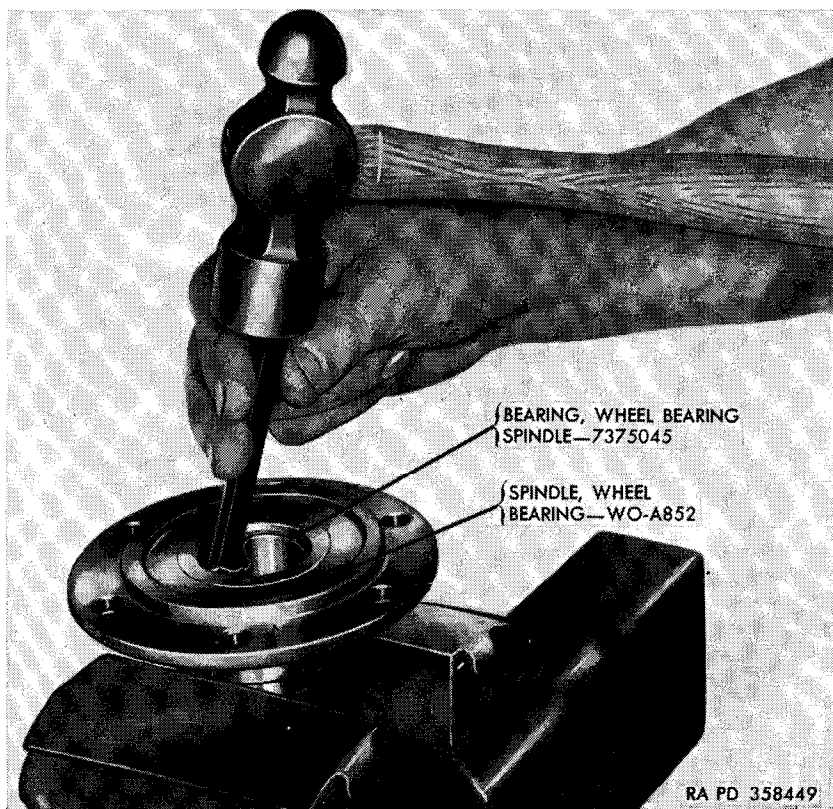
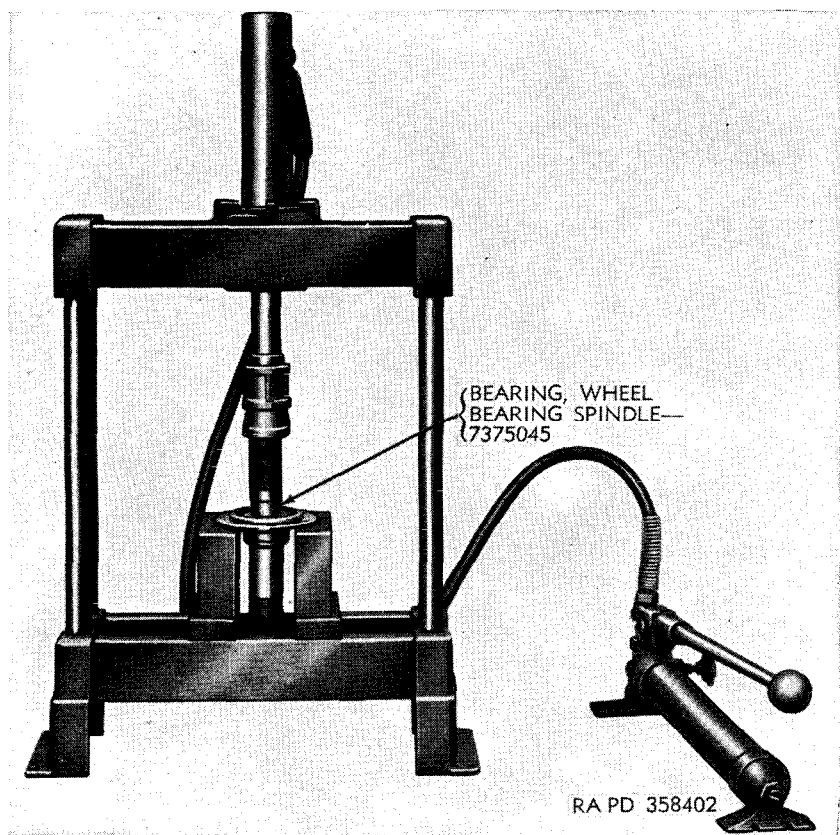

Figure 71. Removing wheel bearing spindle bearing.
Figure 72. Replacing wheel bearing spindle bearing.
b. Wheel Bearing Spindle Bearing Replacement. If inspection (par. 99b), indicates replacement of the wheel bearing spindle bearing (DD, fig. 57) is required, remove the old bearing with a center punch (fig. 71). To install a new bearing, use a suitable driver and press in place (fig. 72).